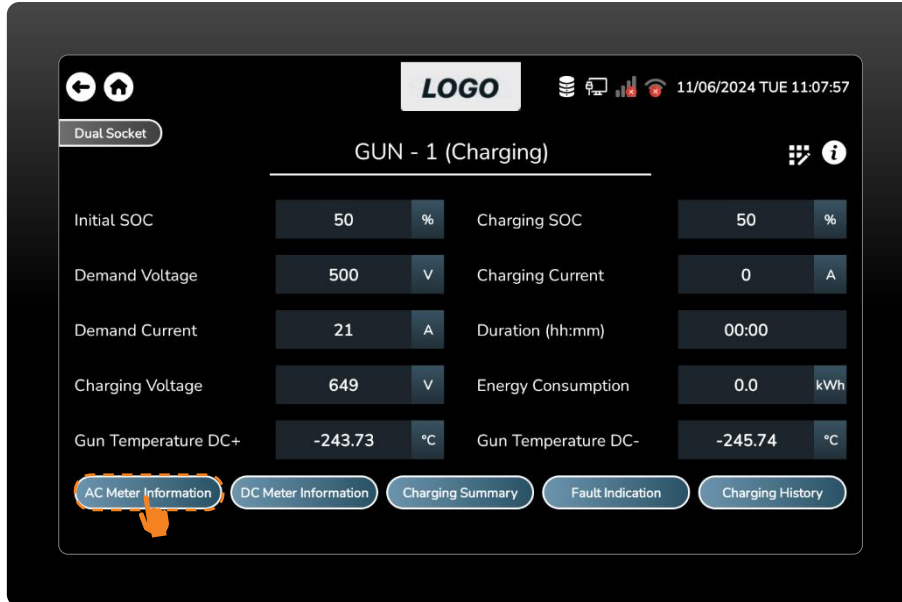

Figure 64 Press the AC Meter Information screen.
- To get information about the AC meter, press the AC meter information button. (Figure 64)